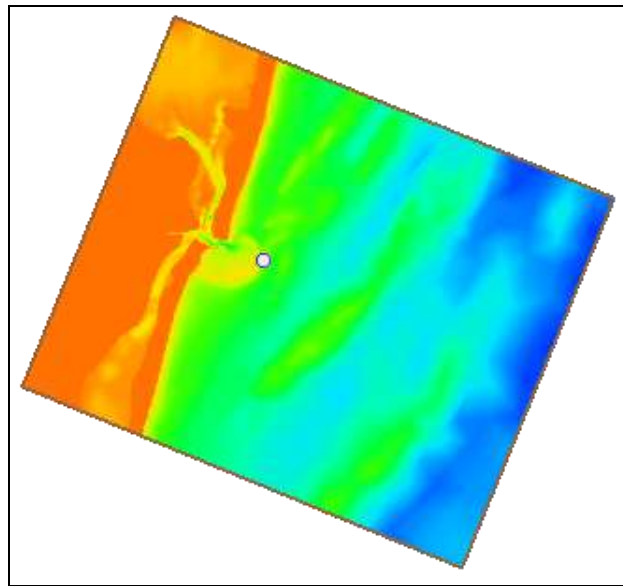

Figure 3 Save point
7. Using the **Create Feature Point**  tool, create a feature point within the grid area as in Figure 3.